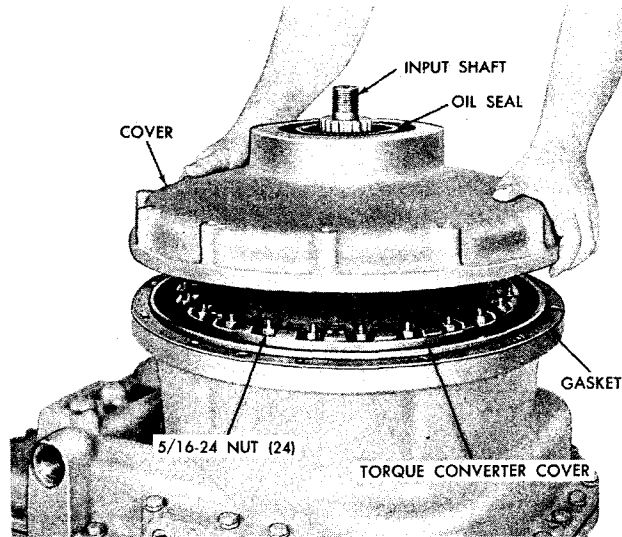

Fig. 5-10. Removing transmission front cover (remote mount)
(3) Remove the transmission front cover and gasket (fig. 5-10). Remove the oil seal from the transmission front cover.
(4) Remove 24 self-locking nuts that retain the torque converter cover (fig.